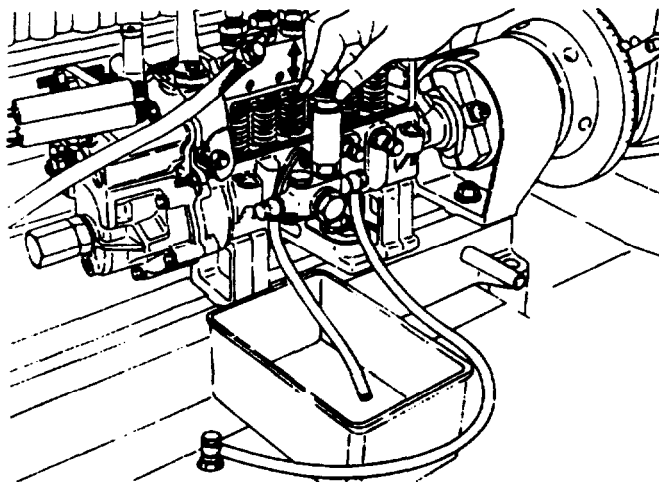

FIGURE 3-33. Priming Pump Test
- (1) Pump should be piped as in step ah, refer to FIGURE 3-33.
- (2) Fully loosen priming pump's screw cap.
- (3) Operate priming pump at 60 to 100 strokes per minute.
- (4) Fuel oil must be discharged in less than 25 strokes.